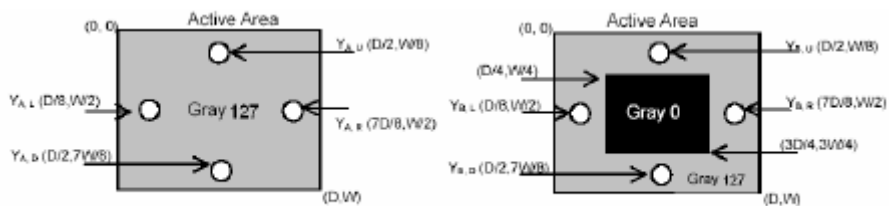

Figure 3: Response Time Testing
- The electro-optical response time measurements shall be made as FIGURE 3 by switching the “data” input signal ON and OFF. The times needed for the luminance to change from 10% to 90% is T_d , and 90% to 10% is T_r .